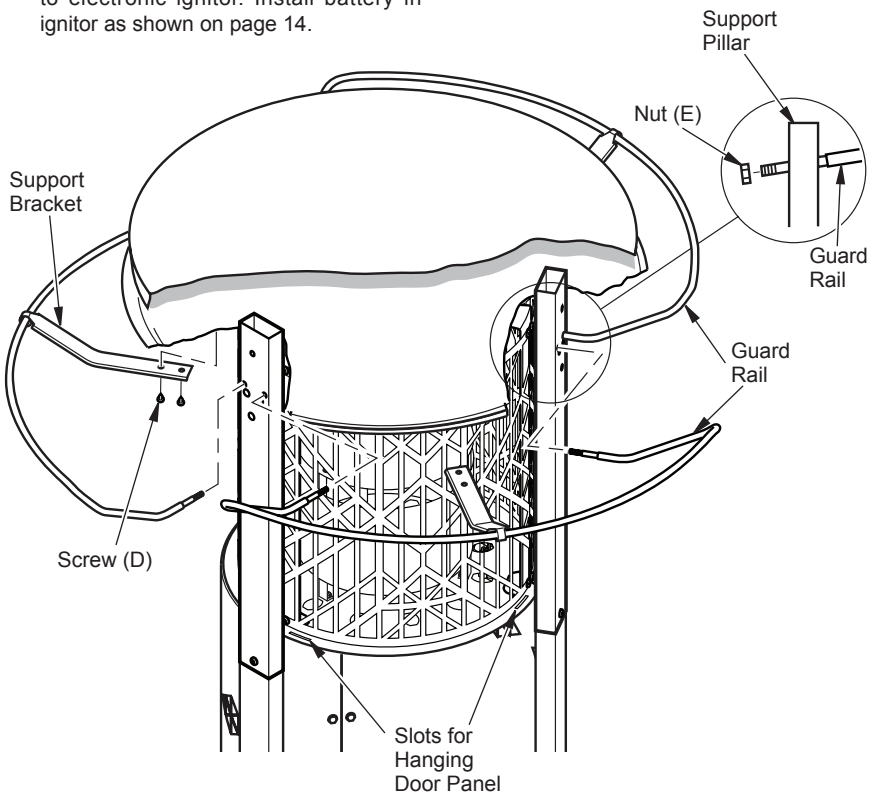

Figure 11 - Guard Rail Assembly (top and deflectors cut away for clarity)
18. Slide support brackets over guard rails as shown in Figure 11. Make certain brackets curve downward.
19. Insert guard rails into holes of support pillars (see Figure 11). Guard rails will go completely through support pillars. Attach nut (E) to ends of guard rails as shown in Figure 11.
20. Attach support brackets to deflector using 2 screws (D) each as shown in Figure 11.